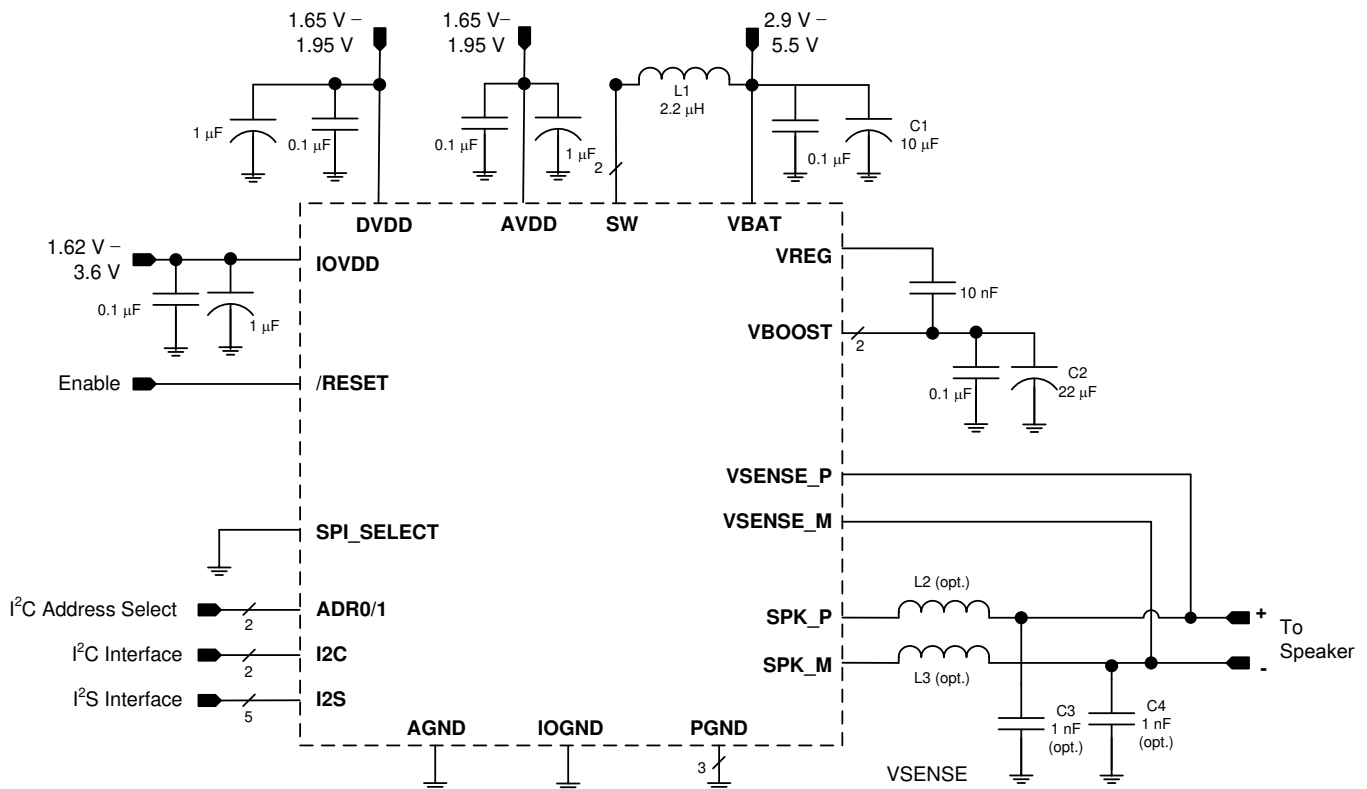

图 38. Typical Application - Digital Audio Input
The boost converter requires three passive devices that are labeled L1, C1 and C2 in 图 38 and whose specifications are provided in 表 4. These specifications are based on the design of the TAS2555 and are necessary to meet the performance targets of the device. In particular, L1 should not be allowed to enter in the current saturation region. The saturation current for L1 should be > I_{LIM} to deliver Class-D peak power.
The TAS2555 device supports edge-rate control to minimize EMI, but the system designer may want to include passive devices on the Class-D output devices. These passive devices that are labeled L2, L3, C3 and C4 in 图 38 and their recommended specifications are provided in 表 4. If C3 and C4 are used, they must be placed after L2 and L3 respectively to maintain the stability of the output stage.
- Use supply decoupling capacitors as shown in Figure 38 and described in Power Supply Recommendations.